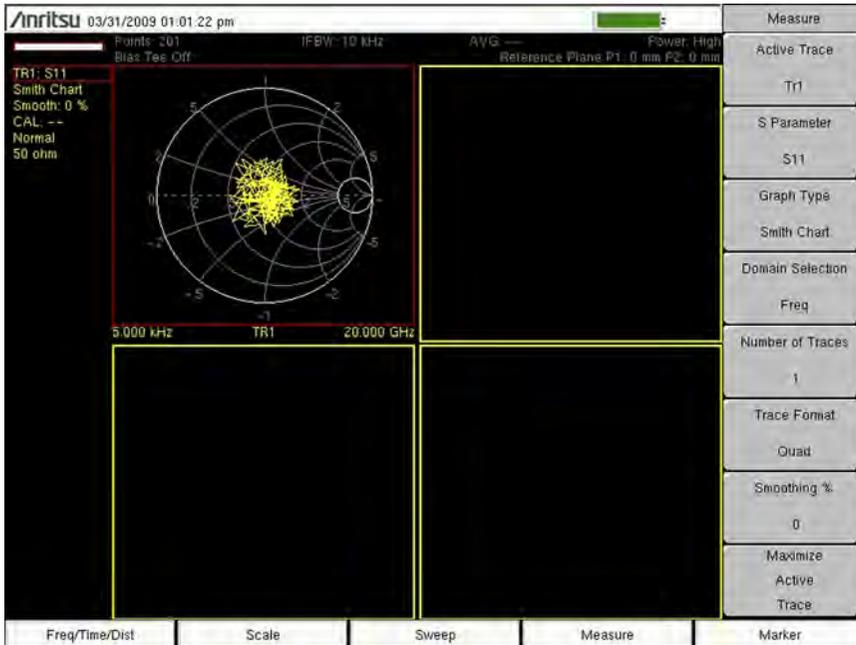

Figure 3-5. Format = Quad, Traces = 1
5. Now return to the default display of Trace Format = Quad. Change the Number of traces from 4 to 1. Note how the top left quadrant is filled, while the other three quadrants have no data. Refer to Figure 3-5 on page 3-6.